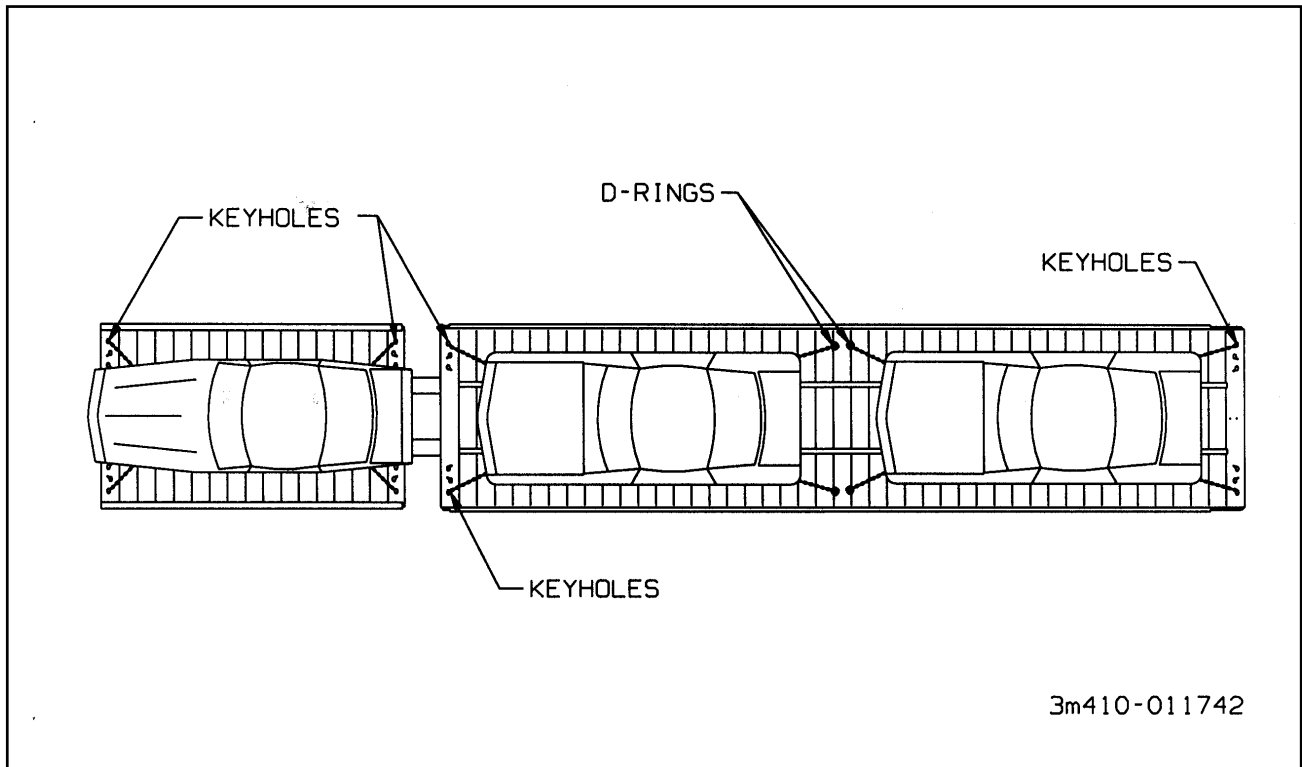

Figure 3-12 Securing the Load
- 3-14.12** Pull the vehicle onto the over-the-cab deck and secure with chains as shown in **Figure 3-12** and described in **Section 3-17**.
3-17.1 All vehicles must be securely tied front and rear to the deck with 5/16 HI-TEST chain. Key holes are provided in the front and rear of each deck floor to anchor and D-rings are provided in the mid section of each trailer deck for anchoring. (See Figure 3-12).